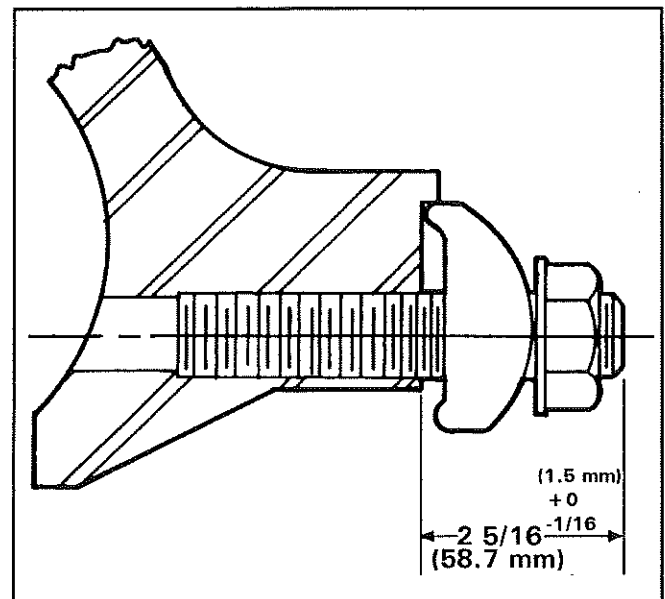

FIGURE 1 - FRONT WHEEL STUD INSTALLATION POSITION (#12925)
1. Installation depth is a measurement of the length of the stud that extends out of the wheel casting. On most installations this dimension is 2-5/16 inches (58.7 +/- 1.5 mm) (See Figure 1).
### DESCRIPTION AND LOCATION (Figure 1)